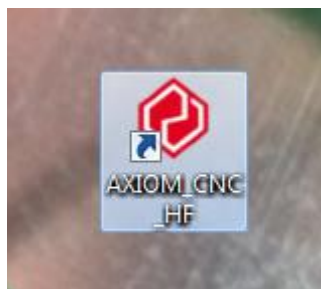

Figure 41: The UCCNC shortcut you should now have on the desktop
- Double click on the icon on your desktop that the profile installer created in Step 3. This should be “AXIOM_CNC_HF” on the desktop (as shown in Figure 41)